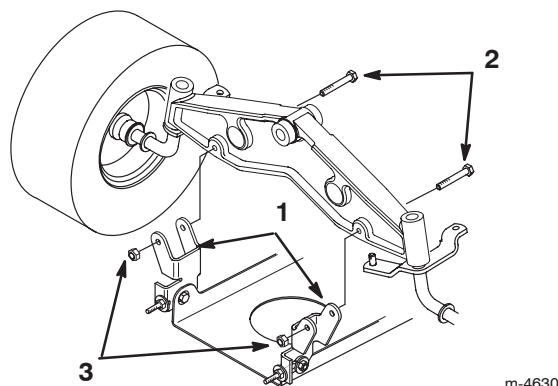

Figure 42
4. Install the mower pivot mount brackets onto the front axle with the bolts and locknuts (Fig. 42).